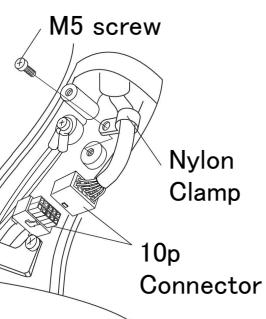

Fig. 3
4. Remove a M5 screw which secure the nylon clamp. Disconnect the 10P connector in the yoke. (Fig. 3)